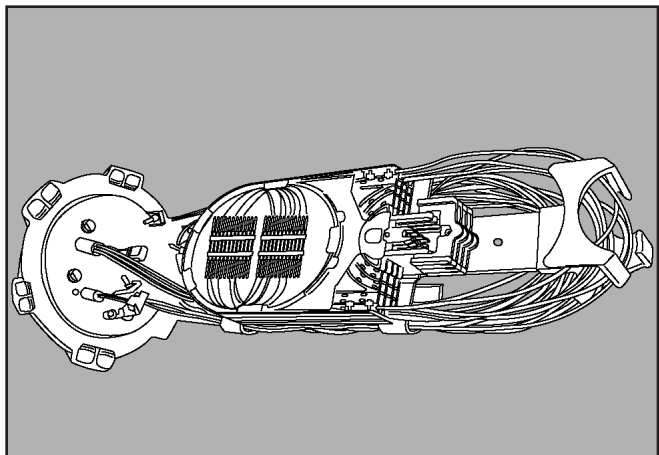

Figure 25
25. The completed splice is now ready for the fitting of the FibreGuard™ Closure Dome. (Figure 25)